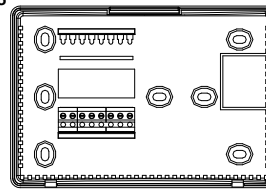

Figure4
■ Match and connect the labeled wires to the appropriate coded terminal screws on the wallplate. (See Figure 4, 5) Ignore any wires which may be present, but which were note connected to the old thermostat.